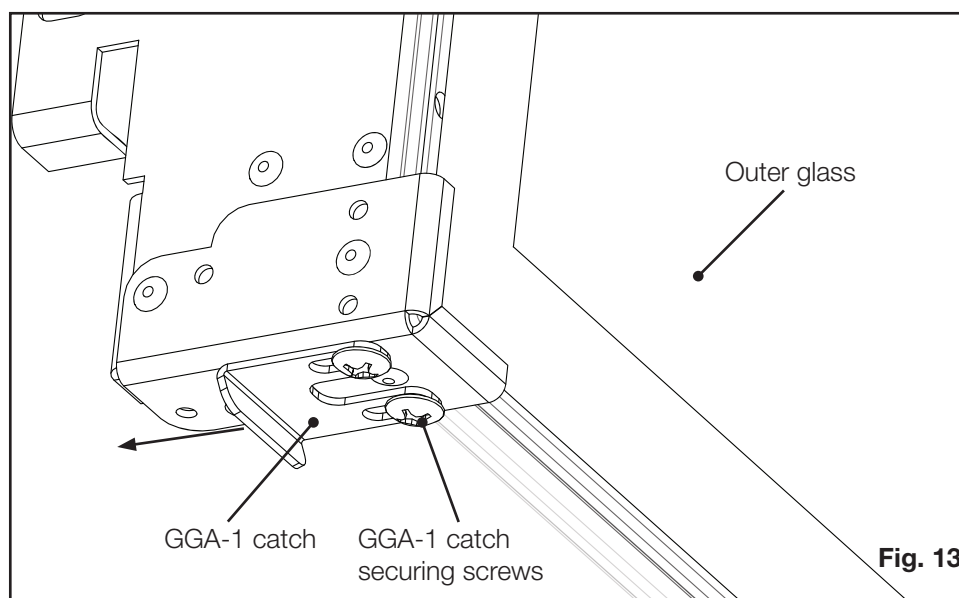

Fig. 13
- The GGA-1 catches should be installed toward the appliance. It may be necessary to loosen the GGA-1 catch securing screws on the bottom of both sides of the GGA-1 and slide them all the way towards the back of the GGA-1. Retighten securing screws (**Fig. 13**).